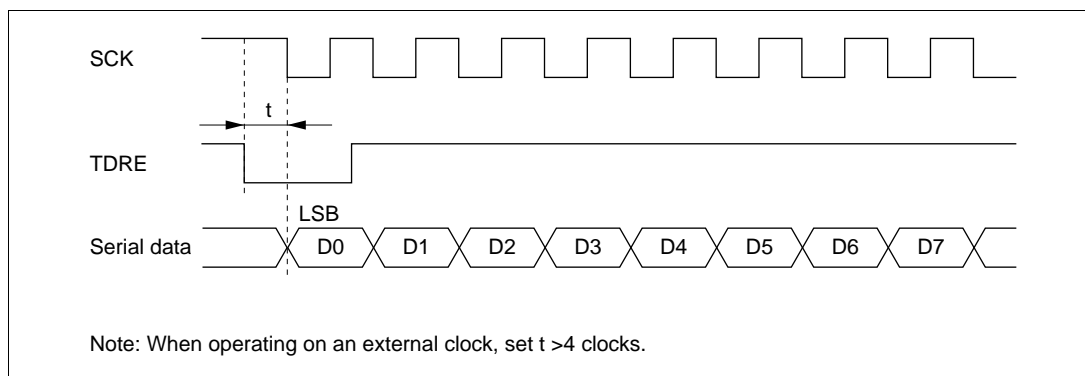

Figure 13-22 Example of Clocked Synchronous Transmission by DTC
- When an external clock source is used as the serial clock, the transmit clock should not be input until at least 5 ϕ clock cycles after TDR is updated by the DTC. Misoperation may occur if the transmit clock is input within 4 ϕ clocks after TDR is updated. (Figure 13-22)